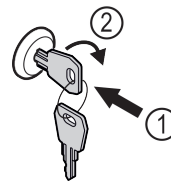

Fig. 132
- ▶ Insert key Fig. 132 (1).
- ▶ Turn key clockwise by 90° Fig. 132 (2).